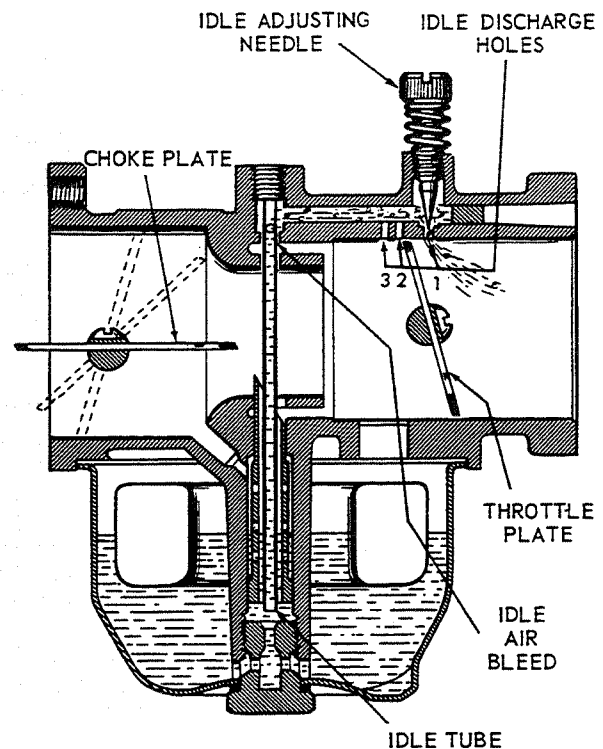

Fig. 2 IDLE AND CHOKE SYSTEMS
#### IDLE SYSTEM (Fig. 2)
### CHOKE SYSTEM (Fig. 2)
1. Slide throttle shaft and lever (23) into seal retainer (3) and seal (2). Insert shaft into throttle shaft hole at manifold end of throttle body (1). Seat shaft in hole on opposite side of throttle bore and press seal and retainer firmly against shaft hole boss.
2. Rotate throttle lever so flat center section faces out manifold opening. Install throttle plate (13) with screws (14), using small screwdriver.
3. Slide choke shaft and lever (15) into choke shaft hole and seat in hole on opposite side of air intake bore.
4. Rotate choke shaft so flat center section faces out intake opening. Install choke plate (16) with screws (17), using small screwdriver.
5. Lay throttle body down with fuel bowl side up and install bowl to body gasket (11).
6. Install washer (21) and fuel valve seat (part of 20). Use large screwdriver to tighten seat to 100 in-lbs. Insert valve, spring and pin (parts of 20) into seat.
7. Install float (9) and float axle (10) on support brackets of throttle body. Check operation of the float to be sure the hinge and axle do not bind and that the float moves in a perpendicular direction.
8. Install throttle stop screw (7) and spring (8). Adjust screw to open throttle slightly but not far enough to uncover #2 idle discharge hole, see Fig. 2.
9. Install idle adjusting needle (5) and spring (6). Screw needle IN (clockwise) until it seats lightly against the #1 idle discharge hole, then back it out 1½ turns as a preliminary idle adjustment.